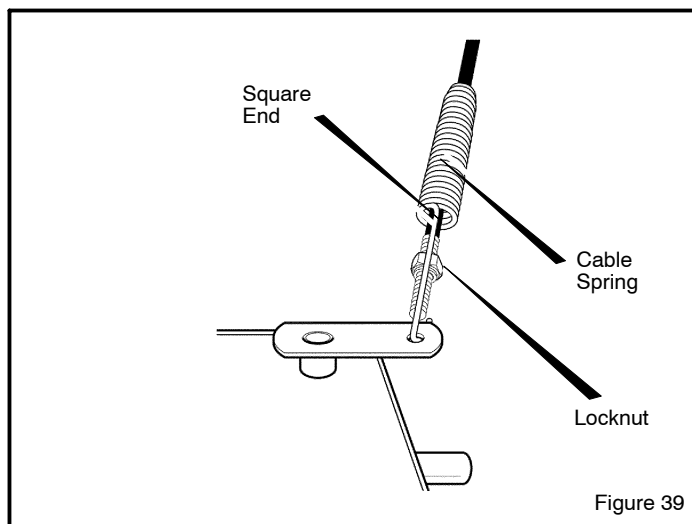

Figure 39
2. Push cable through spring to expose the threaded portion of the cable (see Figure 39).